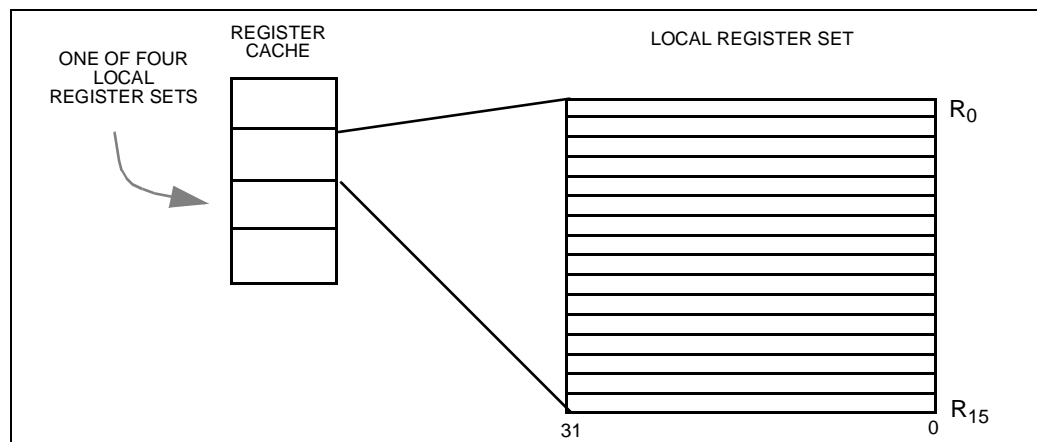

Figure 3. Multiple Register Sets Are Stored On-Chip
4. **Simple Instruction Formats.** All instructions in the 80960MC are 32 bits long and must be aligned on word boundaries. This alignment makes it possible to eliminate the instruction alignment stage in the pipeline. To simplify the instruction decoder, there are only five instruction formats; each instruction uses only one format. (See Figure 3.)